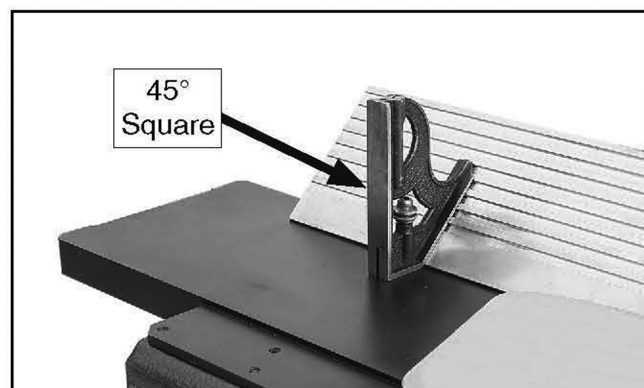

Figure 31. Checking 45° outward (135°) stop.
4. Use a 45° square to check fence angle, as shown in **Figure 31**.